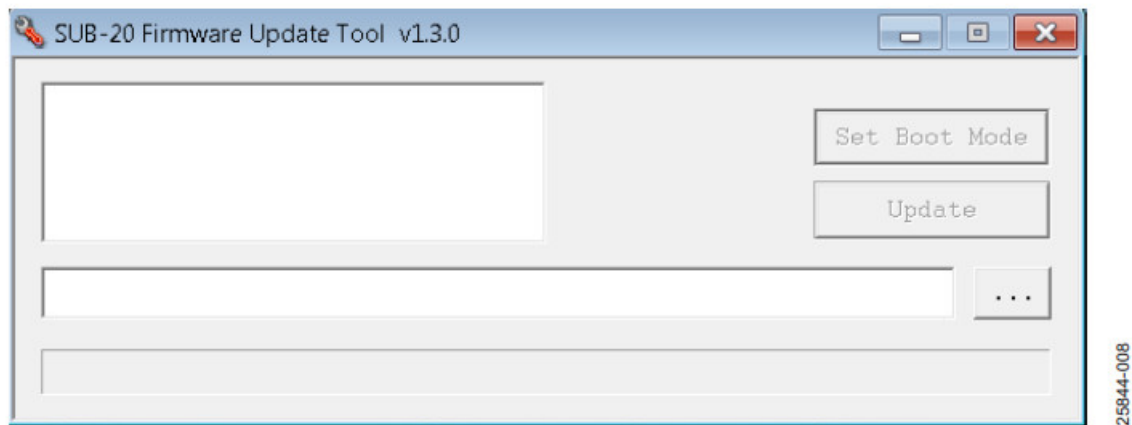

Figure 18. GUI for Updating the SUB-20 Firmware
1. Double click the SUB-20 firmware updater.exe file installed on the PC after the SUB-20 adapter is connected to open the graphical user interface (GUI) shown in Figure 18.
2. For Windows® 10, Figure 18 may open automatically to update the SUB-20 adapter without having to double click the SUB-20 firmware updater.exe file. Click the Update button. For Windows 7 and earlier versions, users may not need to update the SUB-20 adapter.